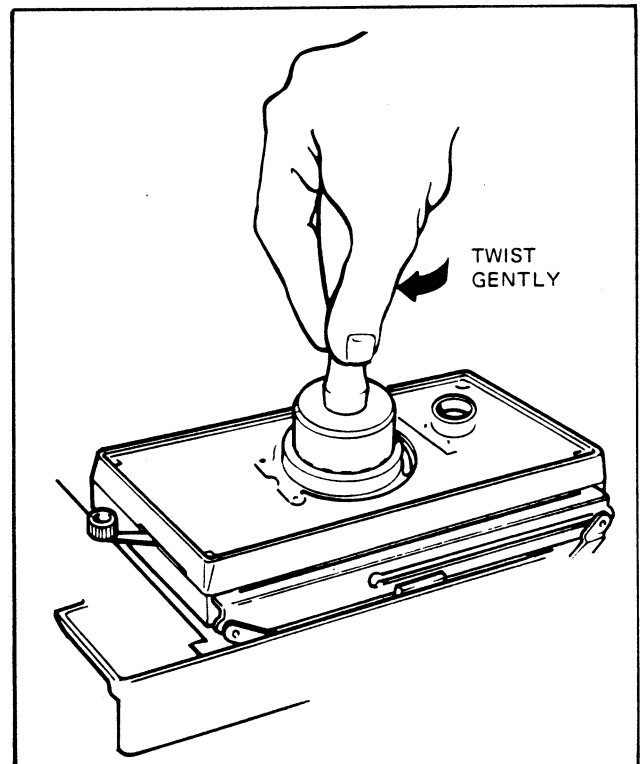

FIG. 5.16 REMOVING LENS RETAINER
2. Remove the lens retainer using tool #CR-1000 (Figure 5-16). Position the tool over the retainer and twist gently until it is free. The lens may now be removed.